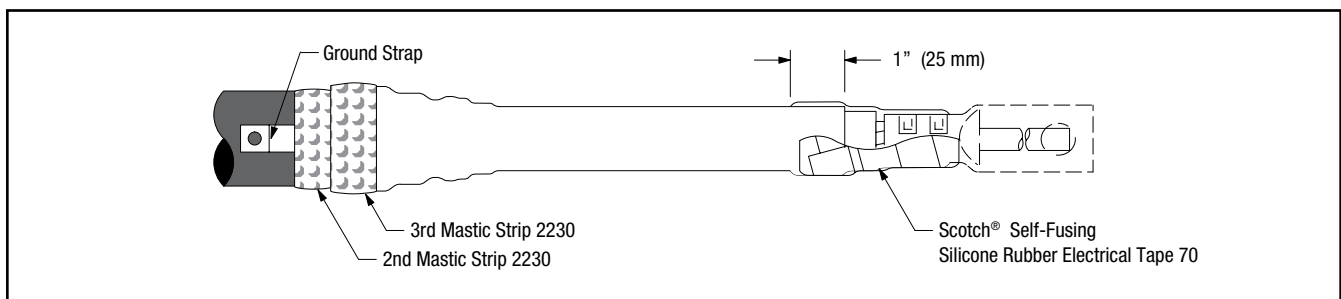

Figure 7
- e. Select second Scotch® Mastic Strip 2230 from kit and remove white release liners. Using light tension, apply a **SINGLE WRAP** of mastic over previously applied mastic. Add another **SINGLE WRAP** of mastic adjacent to the second wrap of mastic that was just applied, directly on top of the termination body (Figure 7). Cut off excess.